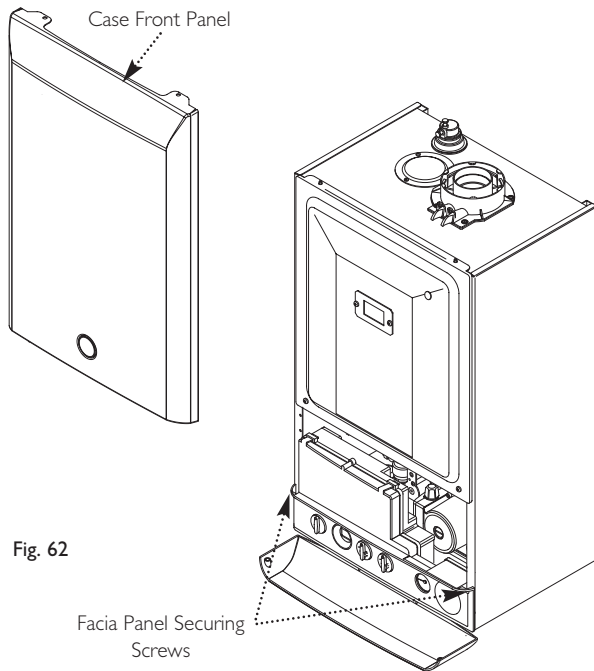

Fig. 62
5. Slacken the screws securing the fascia panel. Lift the outercase panel so that its securing tabs are clear of the fascia. Remove the panel, allowing the fascia to hinge down (Fig. 62).